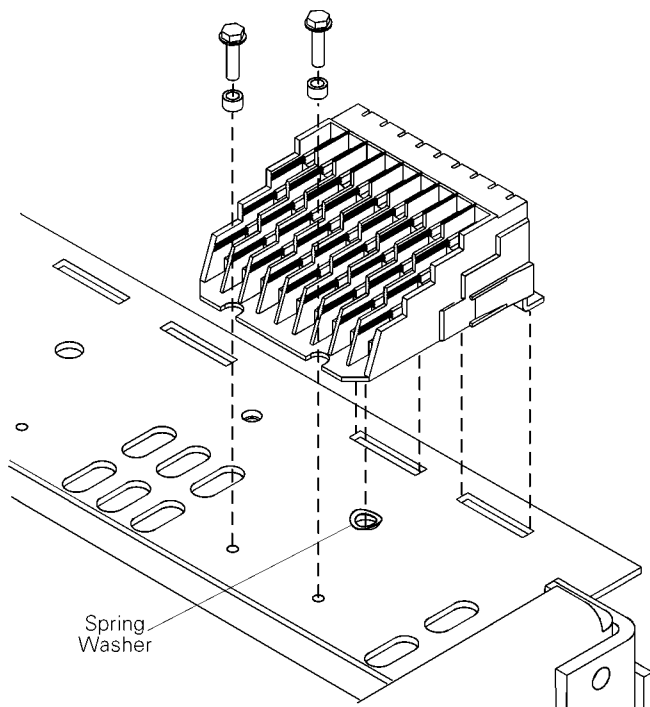

Figure 5-3. Removing the secondary disconnects.
2. Remove the two screws and standoffs securing each secondary disconnect to the mounting plate, taking care to retain the spring washer from the pin on the underside of the disconnect, as shown in Figure 5-3. Cut the wire ties securing the secondary disconnect leads to the mounting plate and to the breaker back frame. Slide the secondary disconnects off the support bracket. Secure the secondary disconnects to the front frame assembly.
18. Place the flexible washer on the molded pin on bottom of the secondary disconnect(s), then slide the two feet into the slots on the mounting plate. Secure with the two screws and standoffs, as illustrated in Figure 5-3. Replace the wire bundle into the channel on the top of the frame and secure with wire ties.